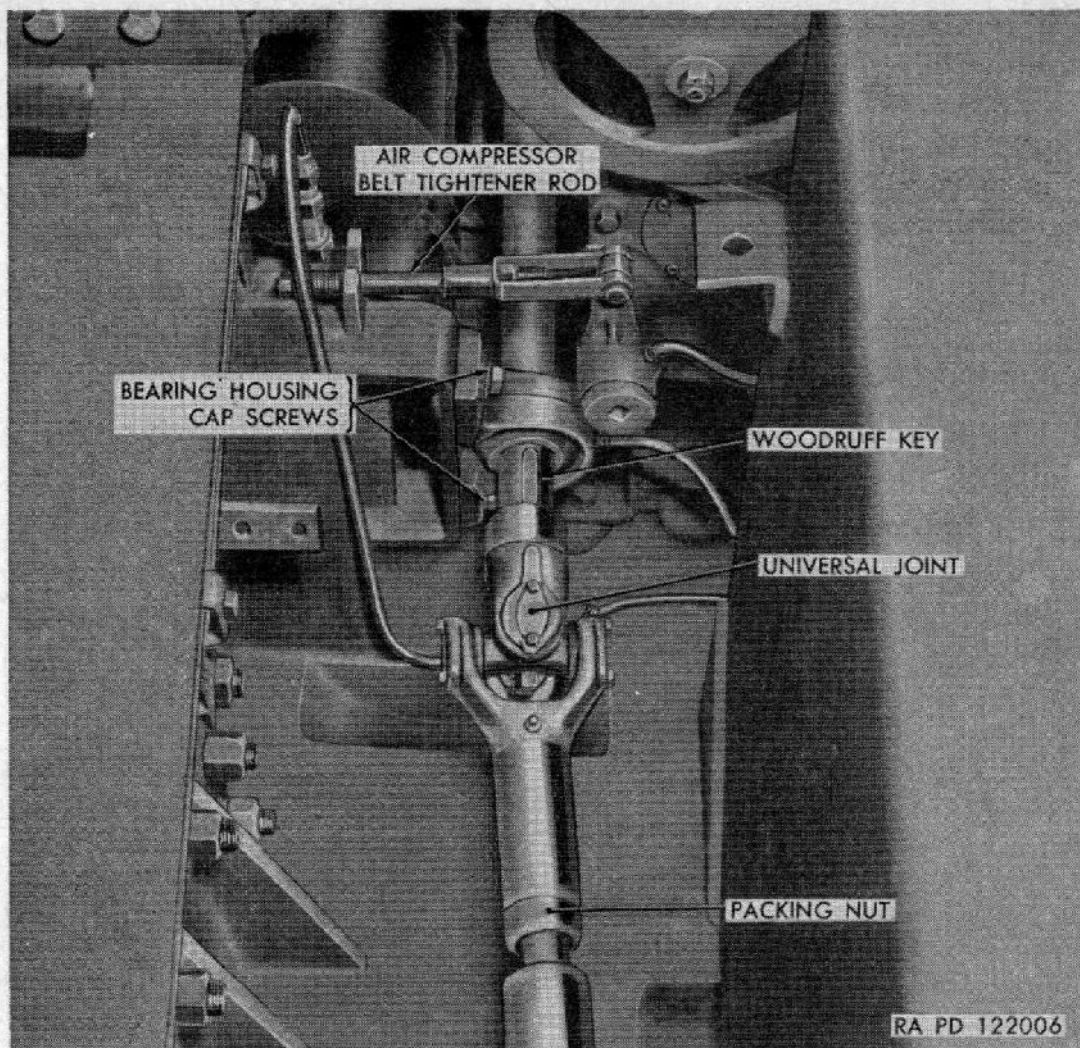

Figure 167. Winch universal joint removal.
slide endways. Remove the lubrication hose at fuel tank and at the bearing. Then remove the socket-head lock screw from the universal joint and unscrew the packing nut at spline. Slide the universal joint assembly toward rear of tractor while sliding drive shaft forward. This will release the universal joint assembly from the shaft; then remove the shaft Woodruff key. Remove the two cap screws that hold the bearing housing to the hull (fig. 167) and pull the bearing off the shaft. The same procedure is used to remove the front bearing with the exception of moving the ammunition box back.
b. Installation. Install replacement shaft bearing on shaft and install to hull with two cap screws (fig. 167). Insert Woodruff key in shaft and connect universal joint to shaft being sure it slides ahead far enough. Insert socket-head locking screw and tighten universal joint to shaft. Insert socket-head locking screw in shaft collar and slide it against the bearing and tighten screw. Install lubrication hose and lubricate bearing. Place ammunition box in position (par. 214*c*). Start engines and check for proper operation of winch center shaft and bearings.